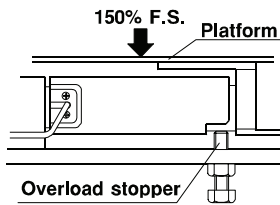

Figure 4
- (1) When a load is applied to the center of the load cell, a load of less than 300% of the rated capacity will not cause any trouble. However, the allowance range of the overload is reduced as the loading point shifts from the center of the load cell. Therefore, the allowable limit at the corner of the platform should be 100% of the rated capacity. Repeated overloading exceeding the allowable limit may shorten the service life of the load cell, and even destroy it in extreme cases. This also applies to the lateral load.
- (2) If excessive shock is applied when positioning an object on the platform, the load will exceed the allowable limit. Therefore, be sure to attach the overload stopper to the load cell. Attach the overload stopper against the load cell with as much space as possible when the platform load (including its fixture) plus 150% of full scale (the rated capacity plus 50% of full scale) is applied to the center of the load cell. When attaching the stopper to the load cell with the platform, adjust the stopper so that it touches the load cell when a 150% load of full scale is applied to the platform. (See Figure 4.)